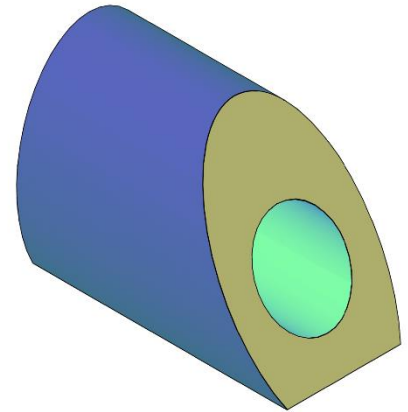
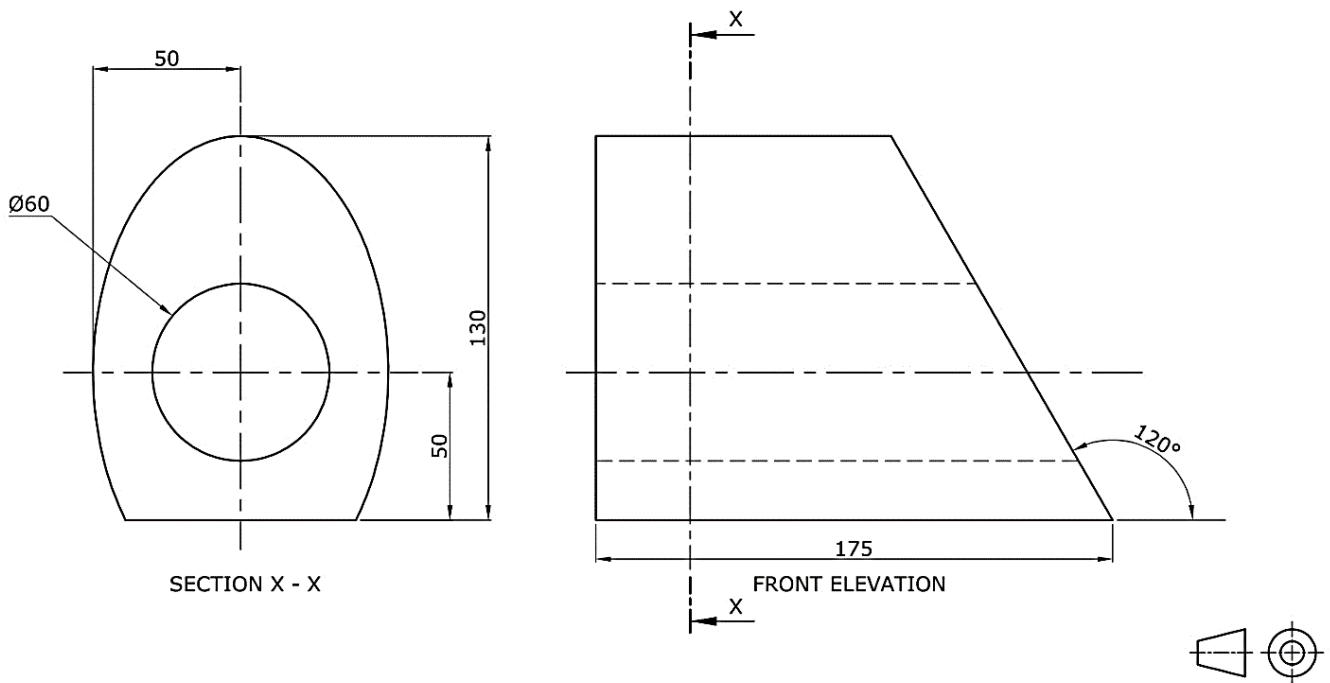

Figure 2a
Figure 2b
A pictorial view of a metal block is shown in Figure 2a and two orthographic views of the block are shown in Figure 2b. The metal block stands on its rectangular base and the axis of the 60 mm diameter drilled through hole, is parallel to the horizontal plane. One end of the block is machined sloping at an angle of 60° to the horizontal plane. The block is finally machined to an elliptical cross – section.
- a) Copy, full size, the given front elevation of the machined block shown in Figure 2b. (2)
- b) Construct the elliptical sectional end elevation. (3)
- i. the profile of the sloping end of the block; (3)
- ii. the shape of the through hole. (2)
- d) Draw the true shape of the hole of the sloping end. (3)